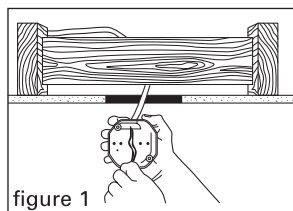

figure 1
1. Pull wires in and clamp them together (figure 1). Using the screws provided, mount the second fan box to the 2 x 4.